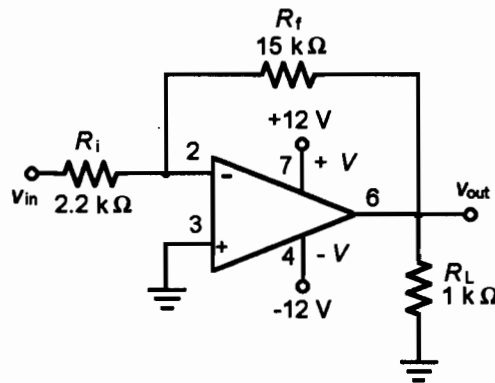

Figure 46.1
- Construct the circuit of Figure 46.1.
4. For the amplifier of Figure 46.1, if  $R_f = 27 \text{ k}\Omega$  and  $R_i = 3.9 \text{ k}\Omega$ , the amplifier gain would be \_\_\_\_\_.